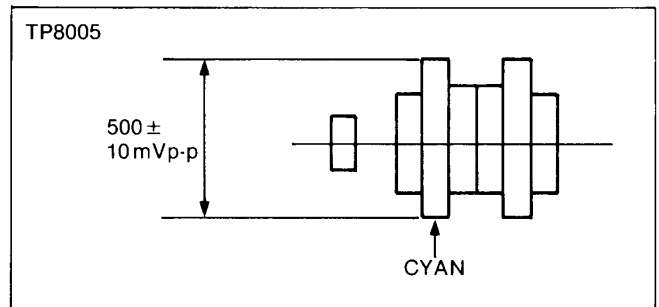

Figure E36
4. Adjust VR8001 for 500m +/- 10mVp-p at the cyan portion as shown in Figure E36.